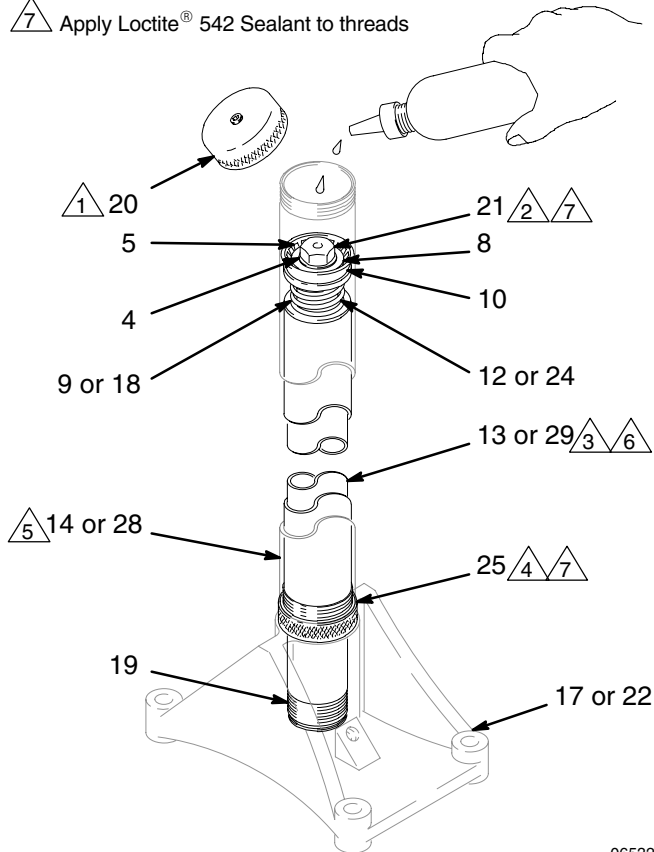

Fig. 6
Every two to six weeks, take the cap (20) off the riser tube (14 or 28) and put a few drops of light, high grade motor oil on the inside surface of the tube to lubricate the leather packing (10). See Fig. 6. When replacing the cap, torque to 20–40 ft-lb (37–54 N•m).
To replace the leather cup packings (10), screw the bearing housing (25) out of the riser tube (14 or 28) and slide the tube up off the piston (11). See Fig. 6. Screw the piston retainer capscrew (21) out of the piston body and remove the parts. Inspect parts for wear and damage and replace as necessary.
To replace the guide tube gasket (19), screw the guide tube (13 or 29) out of the elevator base (17 or 22). Take the gasket out. See Fig. 6. Be careful not to damage the outside bearing surface of the guide tube. Put a new gasket into the base. Put PTFE tape on the threads of the guide tube and screw it into the base. Torque to 90–130 ft-lb (122–175 N•m).